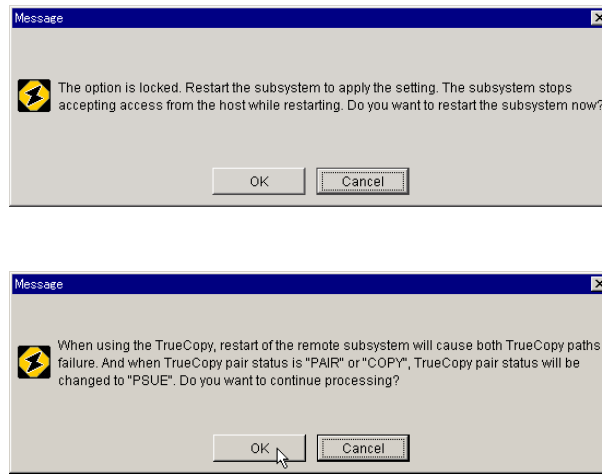

Figure 4.12 Option Lock Confirmation
8. A message appears confirming that this optional feature is locked (see Figure 4.12). Click the OK button.